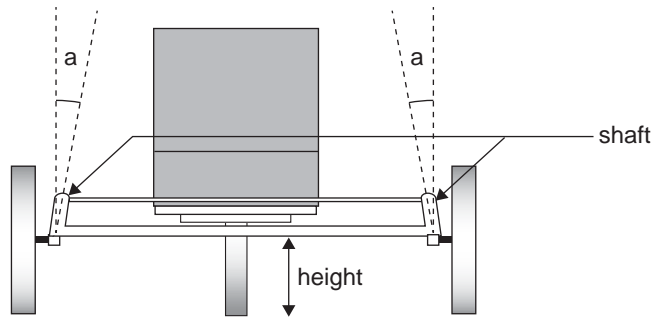

Figure 2
- a. Calculate the pressure in the system if a force of 120.0 N is applied to the brake pedal. Include any working and the final units. Give your answer to three significant figures. 2 marks
- b. Calculate the force applied to each of the brake pads. Give your answer in newtons (N) and to three significant figures. 2 marks